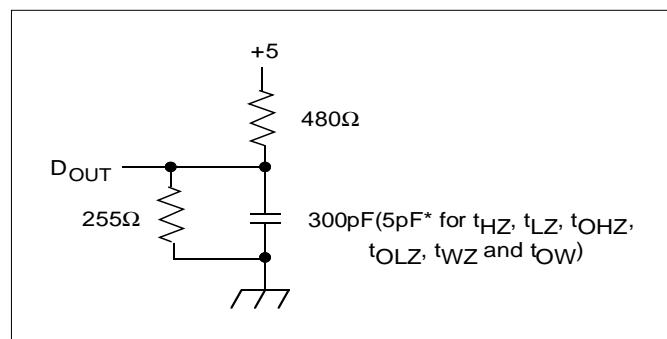

Figure 1. Output Load
8. Transition is measured ± 200 mV from steady state voltage prior to change, with loading as specified in Figure 1.
Output Load	See Figures 1 and 2